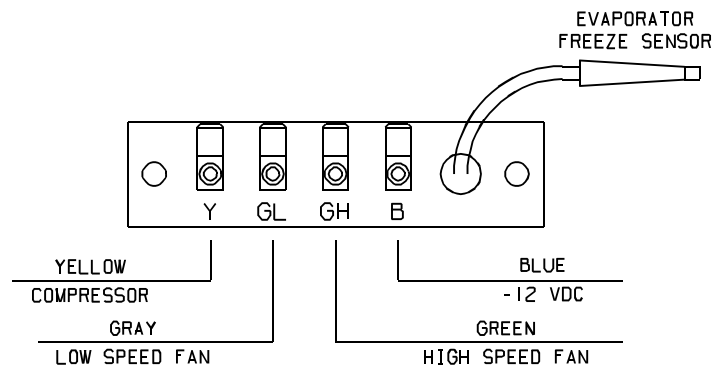

Figure 6. Low Voltage Terminal Strip
The 12 Volt DC signal from the wall thermostat may be checked at the Low Voltage Terminal Strip (Figure 6) located externally on the ceiling plenum wiring box
**Anytime the thermostat is placed in the FAN ONLY position you should be able to read 12VDC between terminals GH and B at the Low Voltage Terminal Strip (see figure 6) .**
Note: The wall thermostat will be equipped with an optional Electric Heat / Gas Heat switch if the Recreational Vehicle is equipped with a Heat Pump or with an Electric Heating Element. In this case the Electric Heat Mode may be checked the Low Voltage Terminal Strip. In either case the Low Voltage Terminal Strip will have an additional terminal labeled “W” for electric heating operation. When Electric Heat is chosen at the thermostat you should be able to read 12VDC between terminals W and B. Please note, the “W” terminal is not shown on the Low Voltage Terminal Strip (Figure 6) or in the chart below because it is not tremendously common.